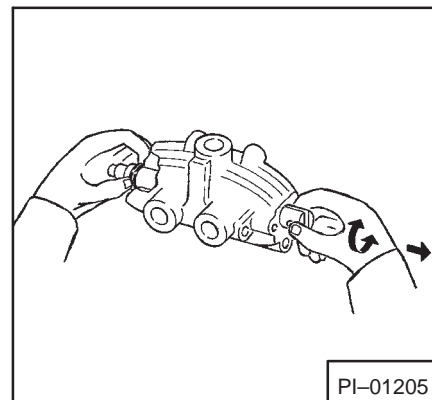

Fig. 4-25 Install Seal On Valve Spool
7. Install a new seal into back groove (Fig. 4-25).
8. Push seal into housing and pull spool into valve housing (Fig. 4-25).